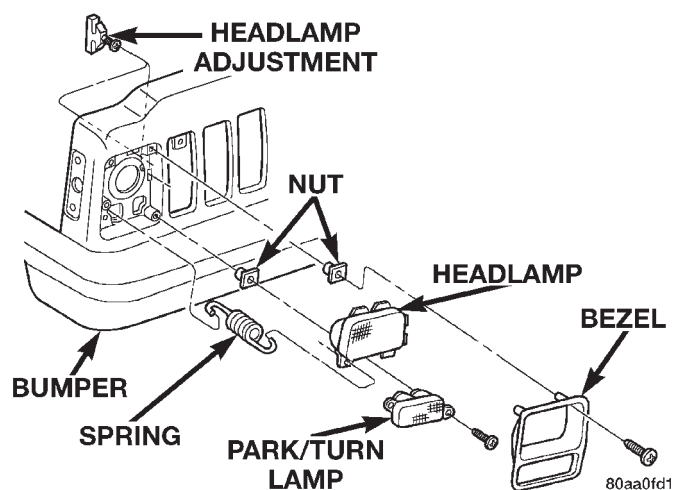

Fig. 1 Headlamp
- (1) Remove the screws attaching the bezel to the grille opening panel
- (2) Remove the screws attaching the retaining ring to the headlamp bucket.
- (3) Disconnect the headlamp bulb wire harness connector.
- (4) Separate the bulb from the vehicle.
- (5) Remove the spring attaching the headlamp bucket to the grille opening panel (Fig. 1).
- (6) Slide the headlamp bucket downward to disengage it from the headlamp adjusting screws.